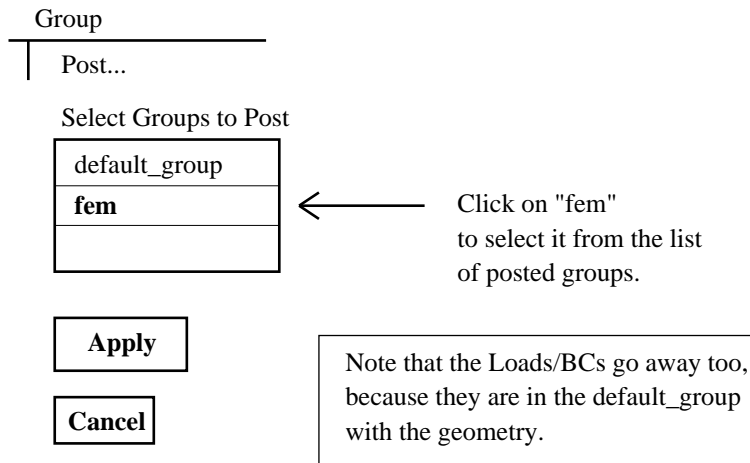

Figure 26: Select Finite Element Model for viewing
- Click on the **Group** label at the top window (**Figure 26**). Choose the **Create...** option. Enter 'fem' in the box with the heading 'New Group Name'.
Both **default_group** and **fem** are highlighted (are displayed in reverse video) to indicate that both are currently selected (**Figure 26**).